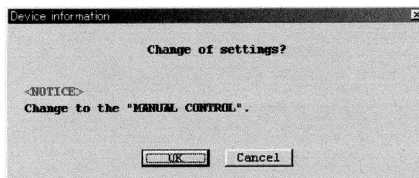

Fig.69
- ⑤ After filling in all the fields required, click on "OK" button. And a message box as shown in Fig. 69 appears.